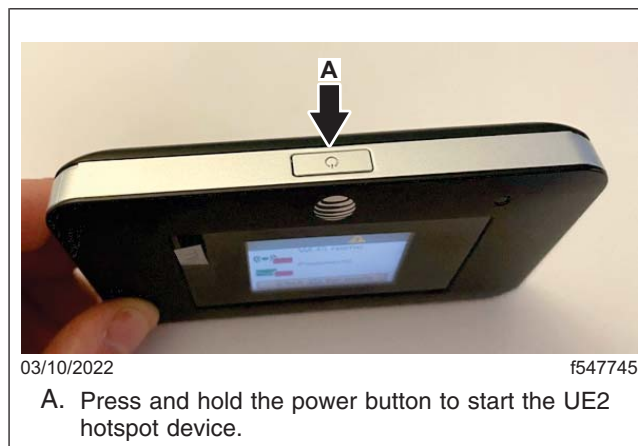

Fig. 9, UE2 Wi-Fi Hotspot Device Power Button
2. To turn on the UE2 Wi-Fi hotspot device, press and hold the power button for up to 10 seconds. The blue status indicator light should start blinking. Within two minutes, the hotspot device screen should turn on. See Fig. 9.